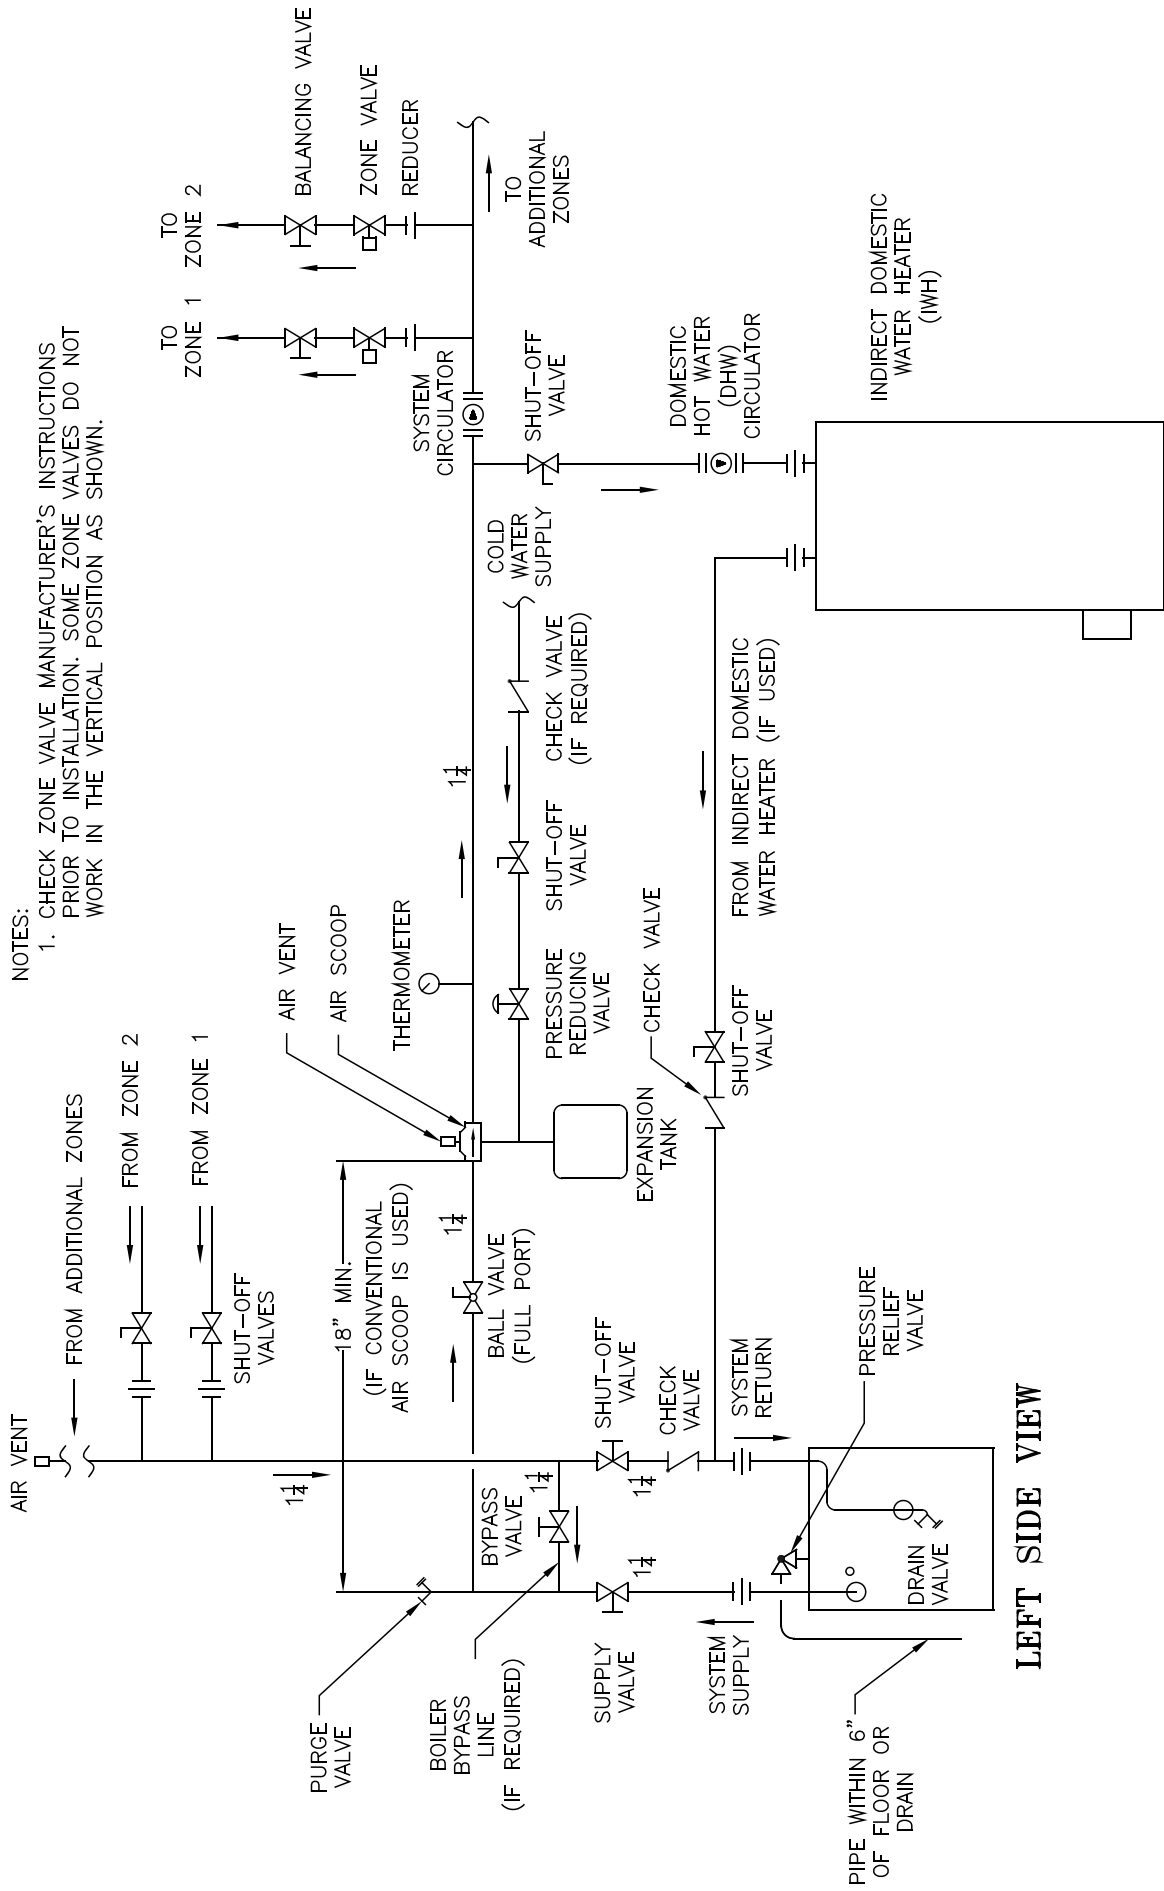

Figure 3: Recommended Water Piping for Zone Valve Zoned Heating Systems
- D. **Connect system supply and return piping** to boiler. Refer to Figure 3. Also consult Residential Hydronic Heating Installation and Design I=B=R Guide. Maintain minimum ½ inch clearance from hot water piping to combustible materials.
- Remove circulator and install pipe tee between circulator and boiler return along with second tee in supply piping as shown in Figure 3. Bypass should be same size as the supply and return lines with valves located in bypass and supply outlet as illustrated in Figure 3 in order to regulate water flow to maintain higher boiler water temperatures.